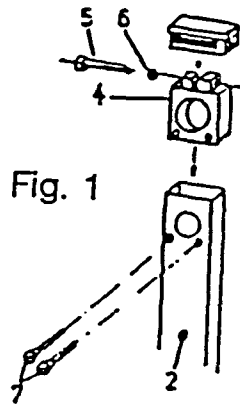

Fig. 1
First screw the two brakes (4) with screwed internal hexagon screws (5) and U-discs (6) with countersunk screws (7) to the arms (2) (Figure 1).